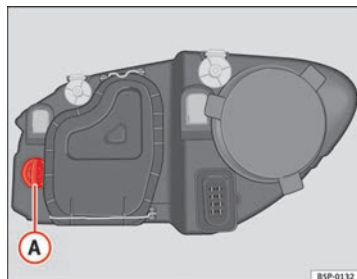

Fig. 178 Turn signal bulb
- Turn bulb holder ⇒ Fig. 178 (A) to the left and pull.